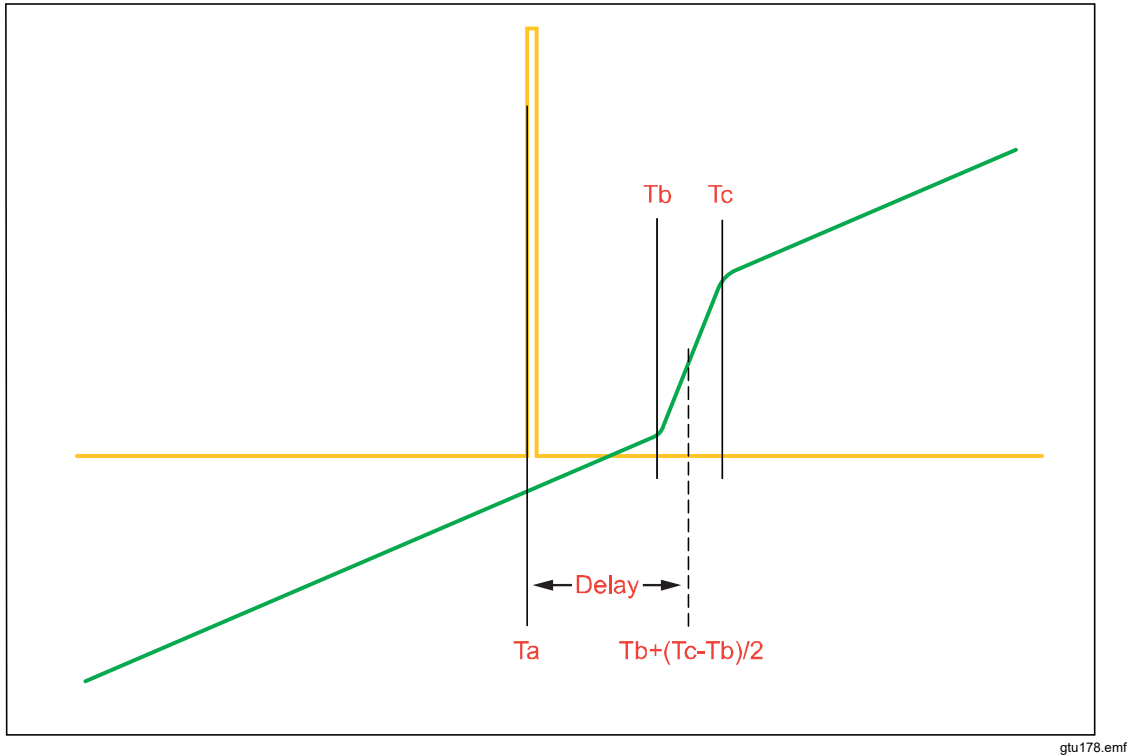

Figure 9-1. Illustration of Plot
5. When the oscilloscope has triggered, use the vertical cursors to measure and record in Table 9-4 the values of Ta, Tb, and Tc for L1V as shown as shown in Figure 9-1.
4. When the oscilloscope has triggered, use the vertical cursors to measure and record in Table 9-4 the values of Ta, Tb, and Tc for L2V as shown as shown in Figure 9-1.
4. When the oscilloscope has triggered, use the vertical cursors to measure and record in Table 9-4 the values of Ta, Tb, and Tc for L3V as shown as shown in Figure 9-1.